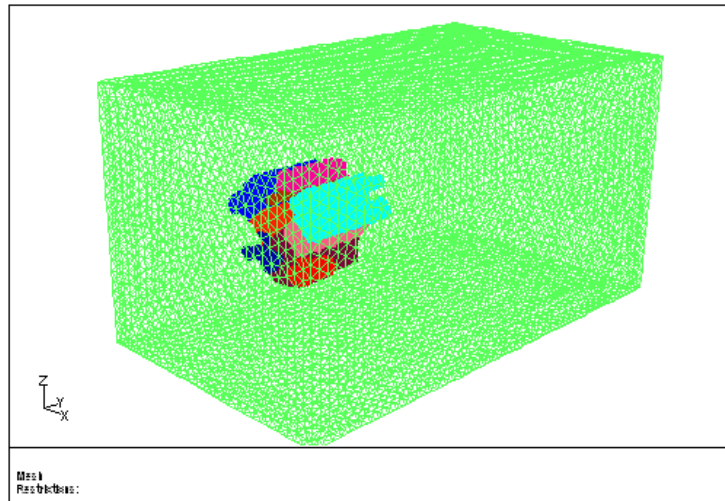

Figure 7.31: Mesh with the Tunnel
7. Display the boundary mesh (Figure 7.31).
*Disable Filled in the Attributes tab of the Display Grid panel and Hidden Line Removal in the Display Options panel to obtain the display shown in Figure 7.31.*